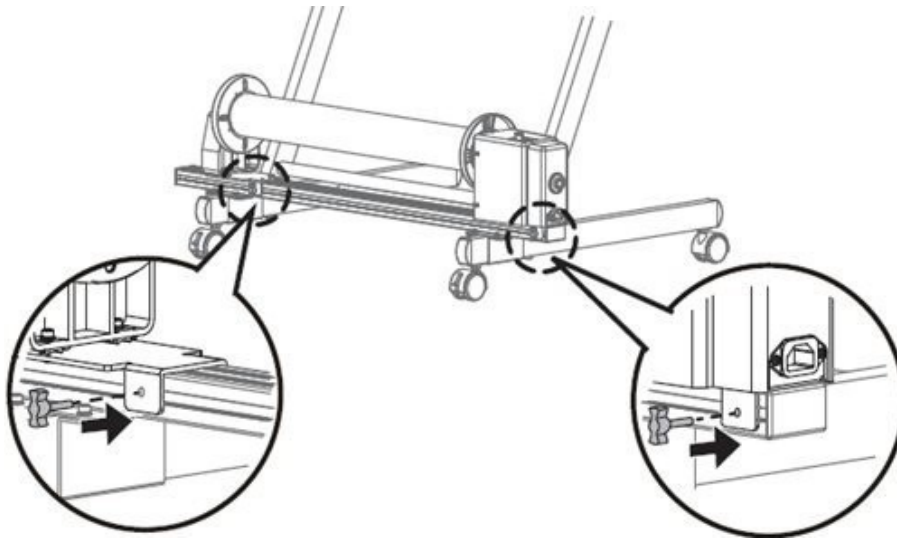

Figure 34
5. Use thumbscrews to fix the driving unit and driven unit on the rail. See Figure 34.